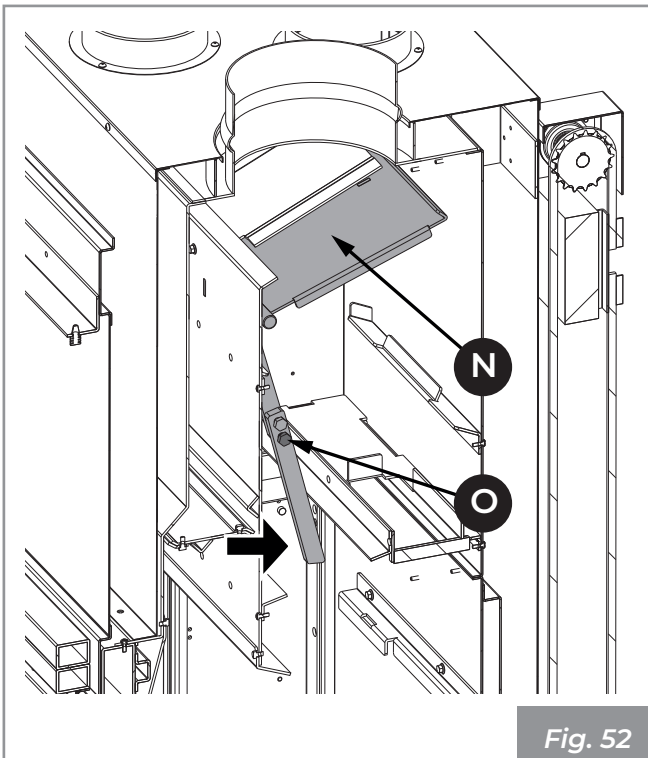

Fig. 52
- 8) Move the inspection valve (N) into the open position, releasing the supporting rod. Then unscrew the lock screw (O) to allow complete access to the flue gas duct (Fig. 52).